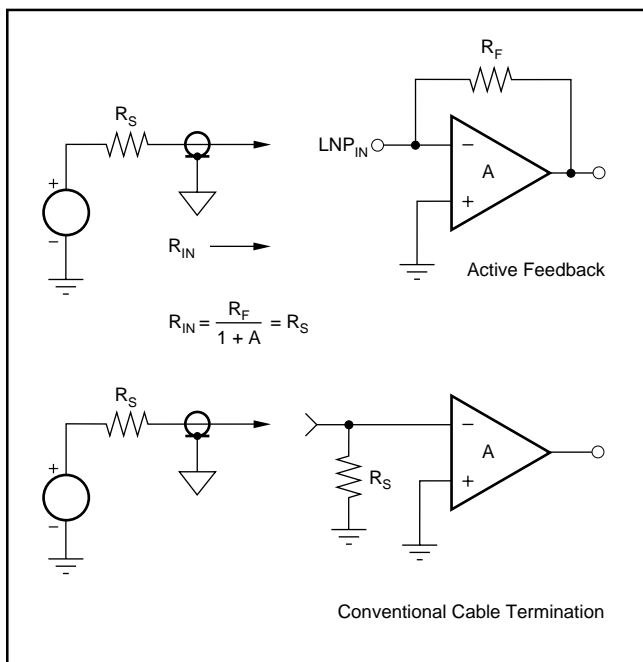

FIGURE 5. Configurations for Active Feedback and Conventional Cable Termination.
See Figure 5 for an amplifier using active feedback. This diagram appears very similar to a traditional inverting amplifier. However, the analysis is somewhat different because the gain "A" in this case is not a very large open-loop op amp gain; rather it is the relatively low and controlled gain of the LNP itself. Thus, the impedance at the inverting amplifier terminal will be reduced by a finite amount, as given in the familiar relationship of Equation (3):